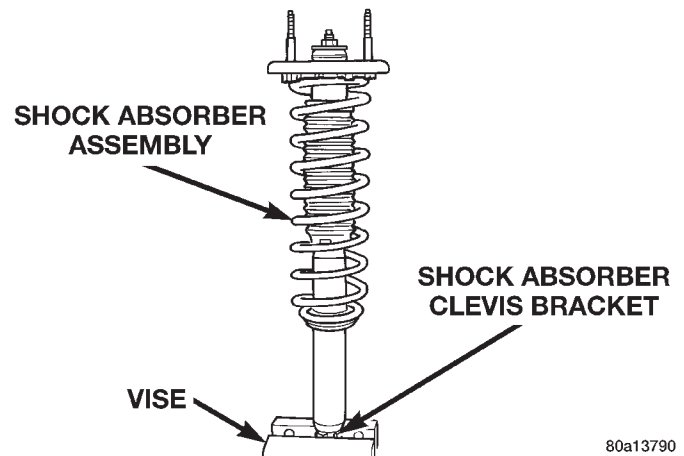

Fig. 52 Shock Absorber Correctly Mounted In Vise
(1) Remove shock absorber assembly requiring service from the vehicle. Refer to Shock Assembly Removal in Servicing Rear Shock Absorbers, in this section of the service manual.
(2) Position shock absorber assembly in a vise. Shock absorber is to be clamped only by the clevis bracket on the bottom of the shock absorber (Fig. 52).
CAUTION: Do not clamp shock absorber in a vise by the body of the shock absorber. The shock absorber must only be clamped in the vise using the clevis bracket on bottom of shock absorber (Fig. 52).